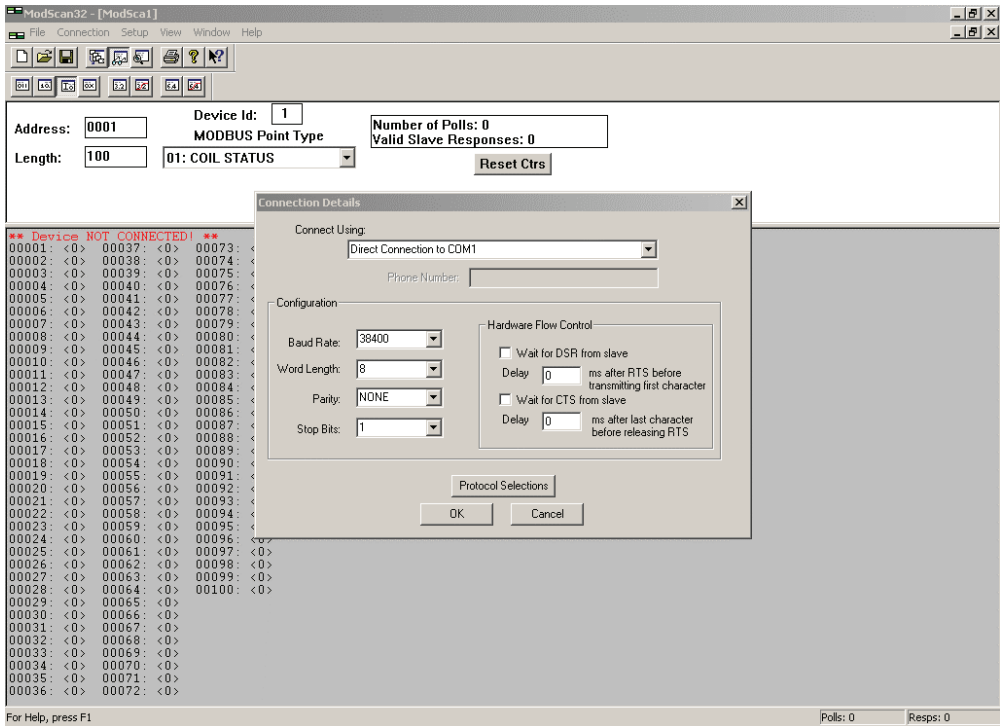

FIGURE 16. MODBUS NETWORK CONNECTION DETAILS DIALOG BOX
1. From the tool bar, select Connection → Connect. The Connection Details dialog box is displayed (see Figure 16). The Device ID is 1 or as configures in nciModlonCfg.
A typical configuration would be set to Baud Rate: 38400, Word Length: 8, Parity: None, and Stop Bits: 1, as shown in Figure 16. Use the pull